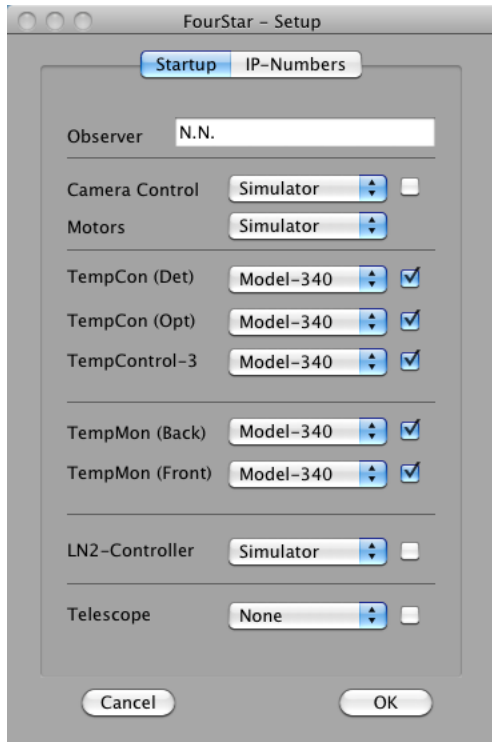

Fig. 8. Setup screen for *Bakeout*.
2.4.13 Close valve 1 of the ion pump; see Fig. 8.
5.3 Restart the FourStar software on the control Mac, selecting the functions shown in Fig 8.